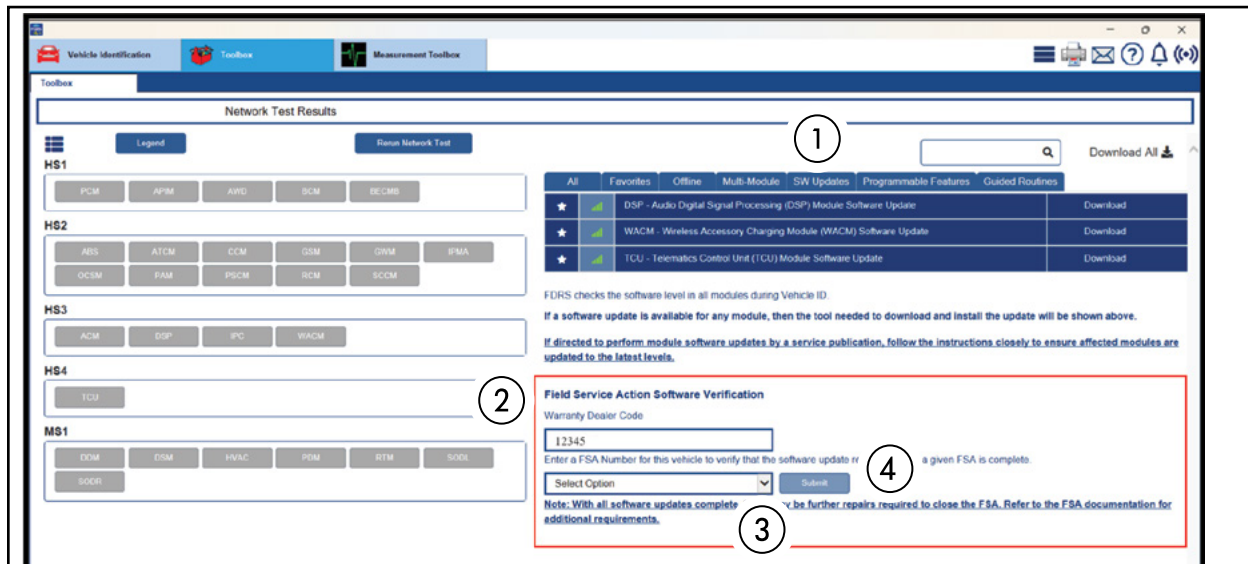

FIGURE 21
12. Select the **SW Updates** tab (1). See Figure 21.
13. **Warranty Dealer Code** (2) - Change the displayed PA code as necessary. See Figure 21.
14. Select the **FSA** (3) from the drop-down menu. See Figure 21.
15. Select **Submit** (4). See Figure 21.